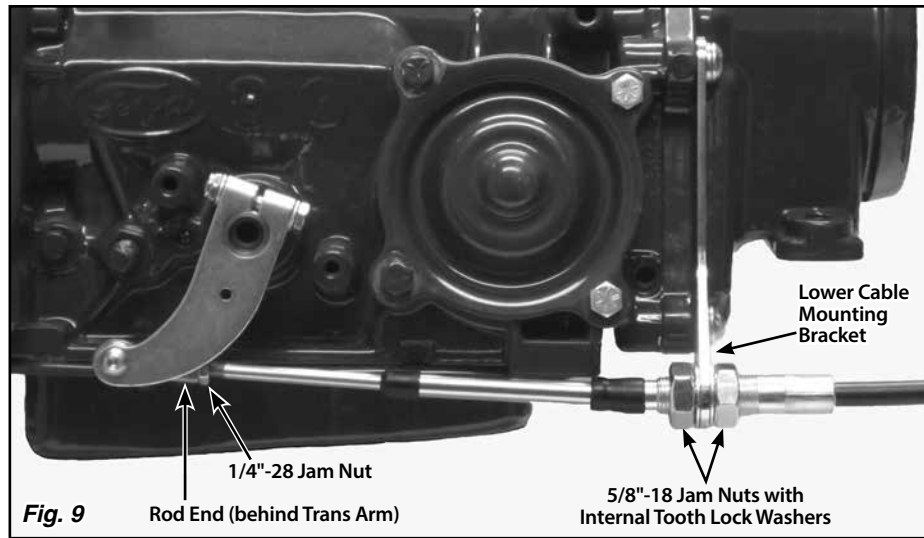

Fig. 9
Step 15: Attach the rod end at the transmission to the trans arm using a 1/4"-28 x 1" button head bolt, flat washer, and nylock nut. The rod end will be positioned on the inside of the trans arm, towards the transmission. The button head bolt can be installed from either direction, but make sure the rod end is sandwiched between the flat washer and the trans arm. **Fig. 9 & 10**